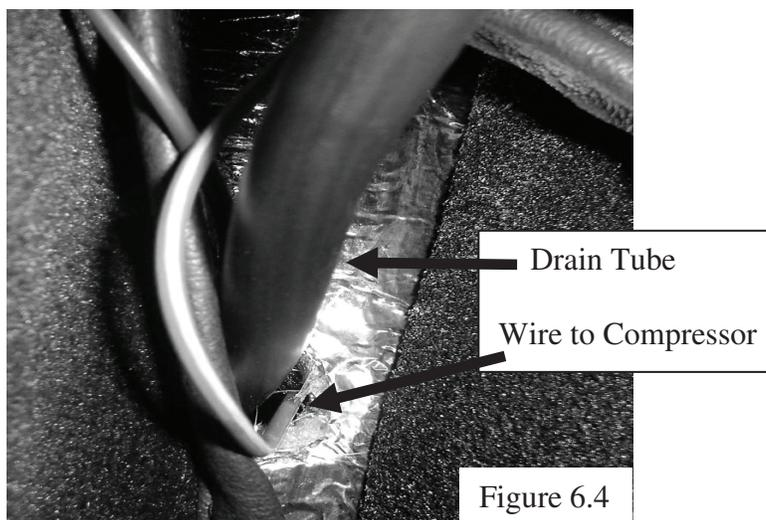

Figure 6.4
- 7) Drain tube installation. The drain tube should be routed with the tee, then out through the firewall. The hole through the firewall is $\frac{3}{4}$ ", and should be routed so the water drains without being obstructed. If the compressor wire is routed through the firewall, use a grommet to protect from a short. Figure 6.4